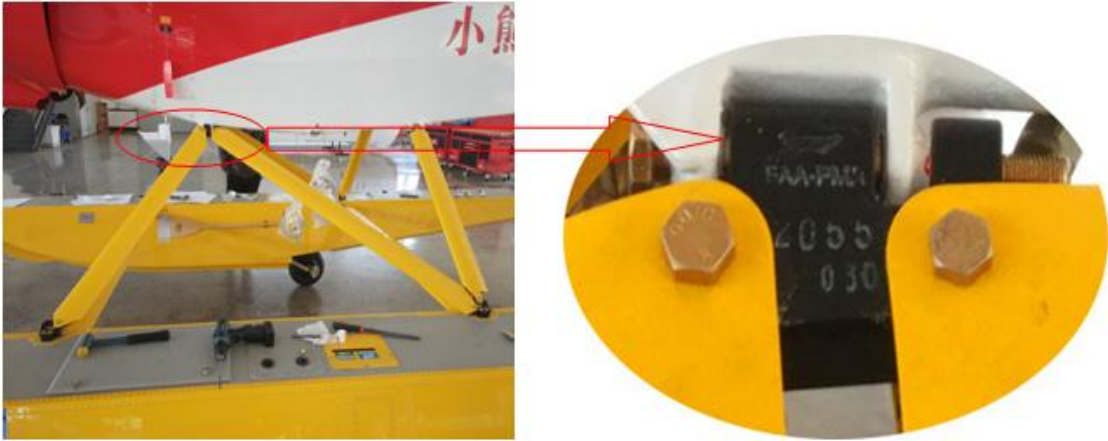

Figure 11
7. Remove the cables between the float struts. Adjust the lifting height as necessary. Remove the connecting bolts and fittings between the float struts and fuselage (Figure 11). Push out the float. According to the requirements of the maintenance